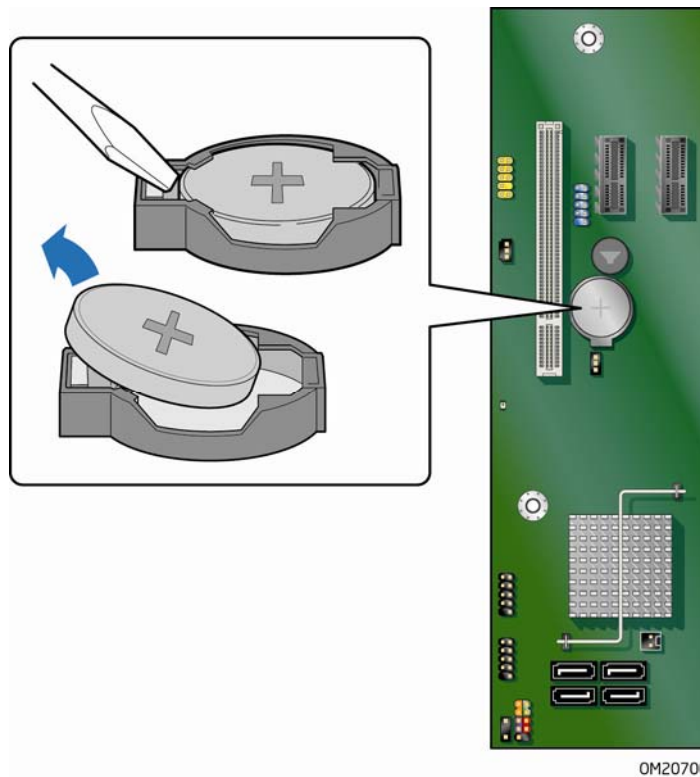

Figure 28. Removing the Battery
When the voltage drops below a certain level, the BIOS Setup program settings stored in CMOS RAM (for example, the date and time) might not be accurate. Replace the battery with an equivalent one. Figure 28 on page 57 shows the location of the battery.
4. Locate the battery on the board (see Figure 28).